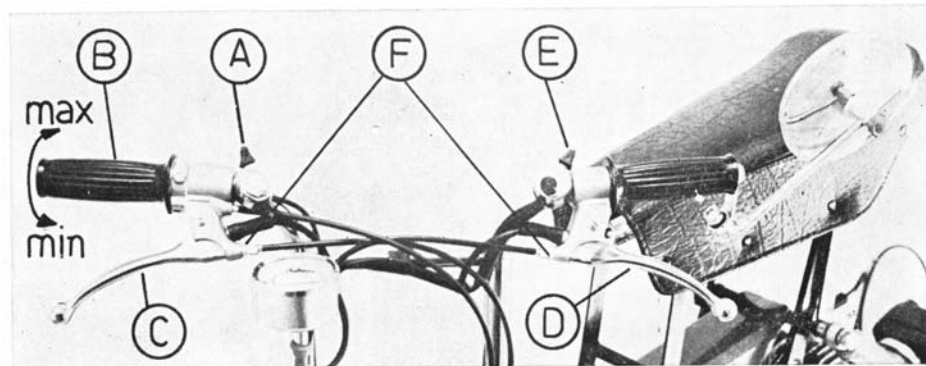

fig. 10
- Switch the ENGINE STOP SWITCH to RUN, located on right handlebar (fig. 10-A) (only in the vehicles with 6V-25W electric system).
- OPEN THE THROTTLE SLIGHTLY, twisting action of right handlebar grip (fig. 10-B).